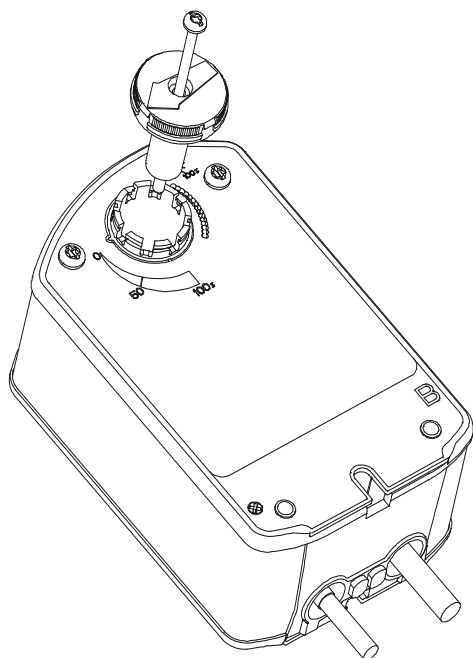

Figure 14: Installing the fixed pointer
6. Insert fixed pointer and M4x0.7x83 mm long screw into the Side B actuator hub. Direct the arrow on the pointer to 0% (Figure 14).